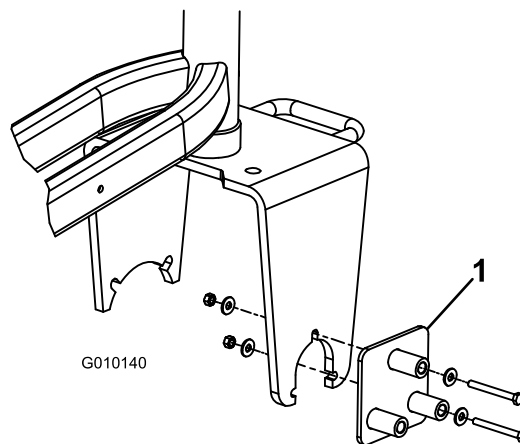

Figure 1
1. Mount the drill guide to the left side of the castor fork with 2 bolts (5/16 x 3 inches), 4 washers (3/8 x 7/8 inch), and nuts. Position the components as shown in Figure 1.